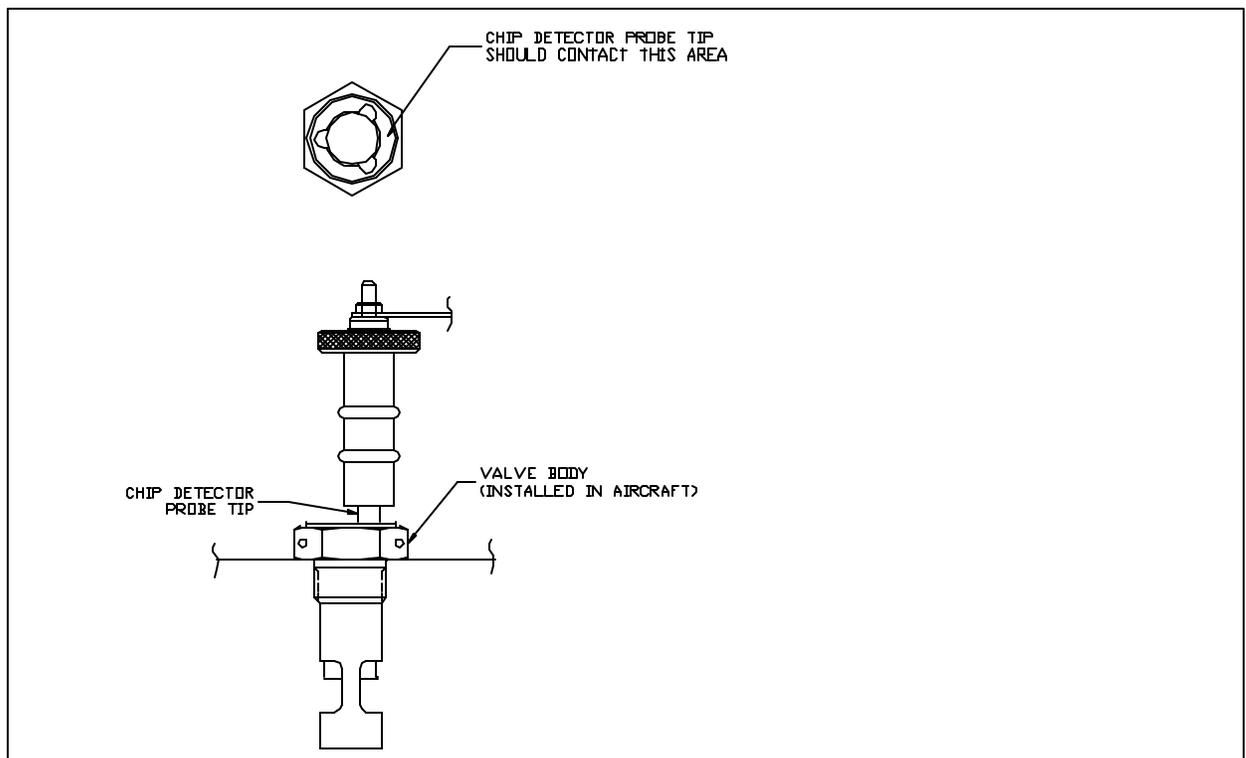

FIGURE 2
3. Hold the tip of the center stud of the chip detector probe firmly against the steel insert as shown in Figure 2 while checking chip indicator light in cockpit. If the cockpit light illuminates, the unit is acceptable. If the light does not illuminate, then proceed to the next step.